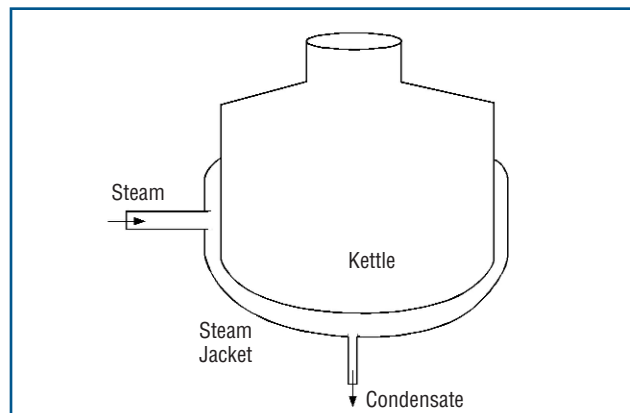

Figure 11. Configuration of a Jacketed Kettle Heat Exchanger
**Jacketed Heat Exchangers.** Jacketed heat exchangers use an enclosure to surround the vessel that contains the heated product. A common example of a jacketed heat exchanger is the jacketed kettle. A representation of a jacketed heat exchanger is shown in Figure 11. Jacketed heat exchangers are practical for batch processes and for product types that tend to foul or clog tube bundles or coils.